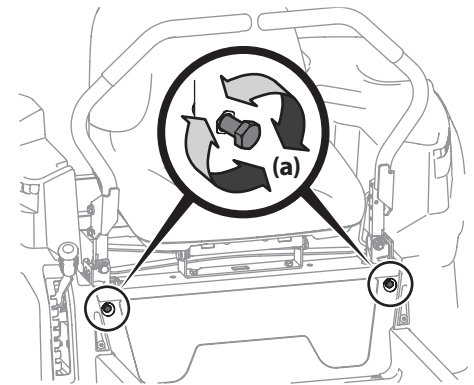

Figure 4-7
6. To lower the front of the deck, remove the end cap, loosen the outer nut (a) then loosen (thread outward) the inner nut (b), away from the front hanger bracket. See Figure 4-7. When proper adjustment is achieved, re-tighten the outer nut (a) and replace the end cap.